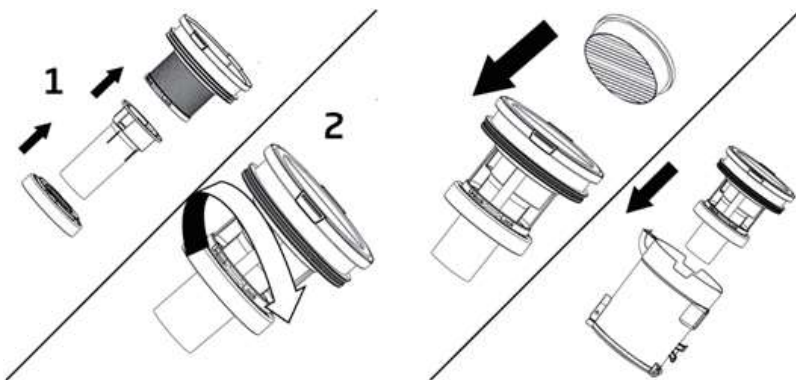

Fig. 18
6. When the pre-motor is completely dry, reverse the above steps and refit the filter into the dust container and close the flap. In each case turn in the direction of the locked padlock symbol (fig. 18).